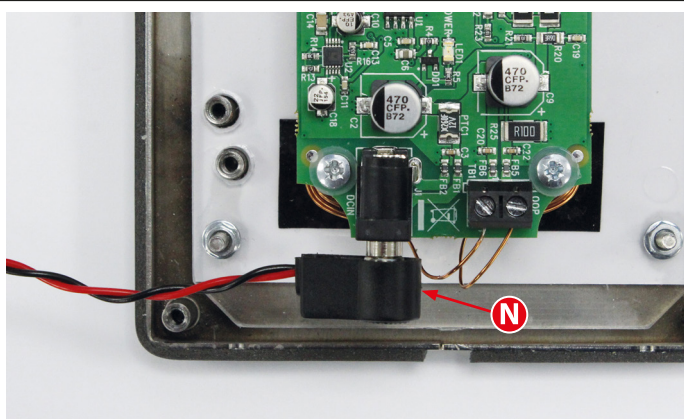

Fig. 28
17. Next take the 12Vdc power cable and plug it into the power plug-in terminal at the bottom of the Induction Loop, as shown in **Fig.28, N**.